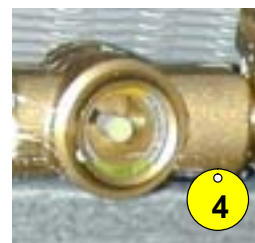

fig.15b
- check the refrigerant load using the indicator, mark 4 (see fig. 15b), the liquid should not bubble too much; if more refrigerant is needed, check for leaks is imperative (by a frigorist), and change any defective part as well as deshydrator 5